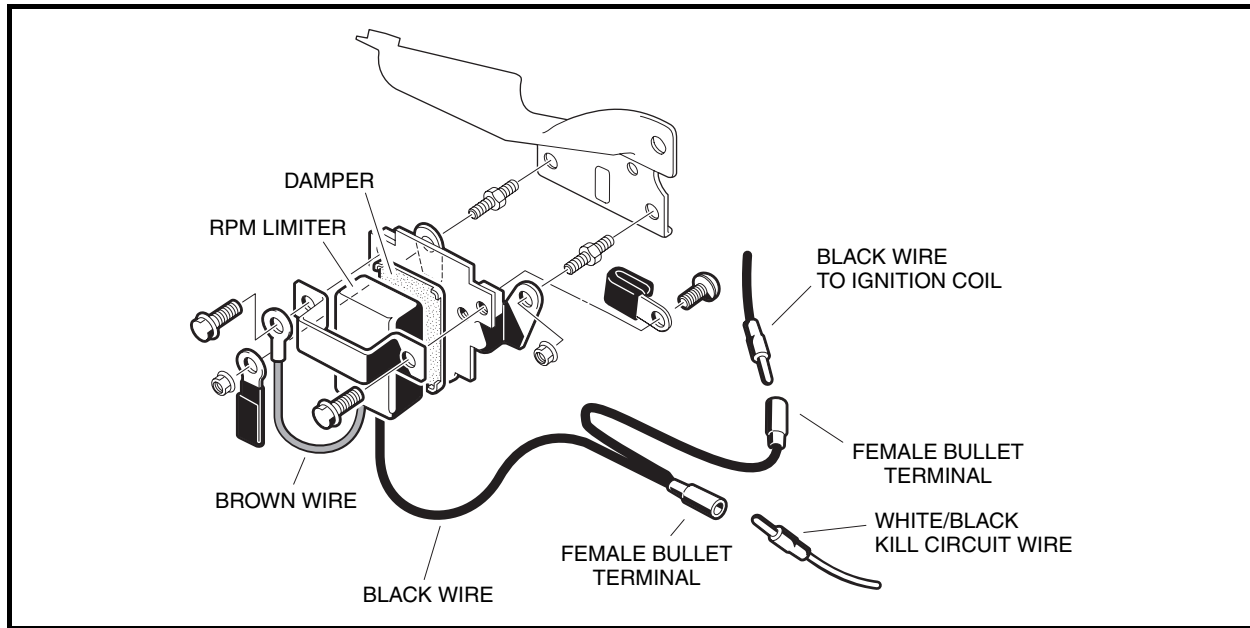

Figure 12-24 RPM Limiter Assembly
3. Disconnect the white/black wire from the black wire at the bullet connector located near the RPM limiter (**Figure 12-24, Page 12-23**).
2. Place the RPM limiter with damper on the front of the RPM limiter mounting bracket (**Figure 12-24, Page 12-23**).